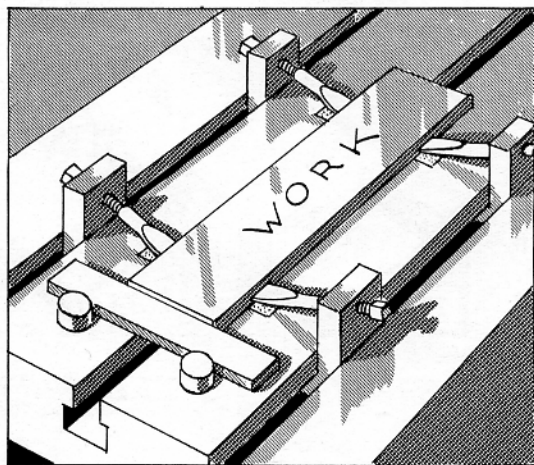

FIG. 184
7. Place the toe dogs in turn against the sides of the work. Support the flat ends upon shims and the opposite ends against the screws of the stops (Fig. 184). Shims are not always used. When they are employed, the table surface is protected and the contact edges of the toe dogs are steadied.